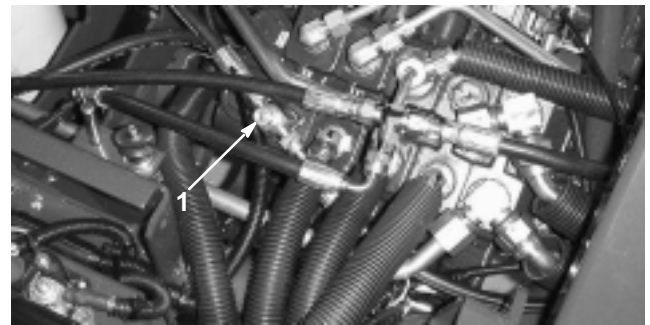

Figure 49
1. Raise the seat and locate the flow control valve mounted to the main control valve (Fig. 49).